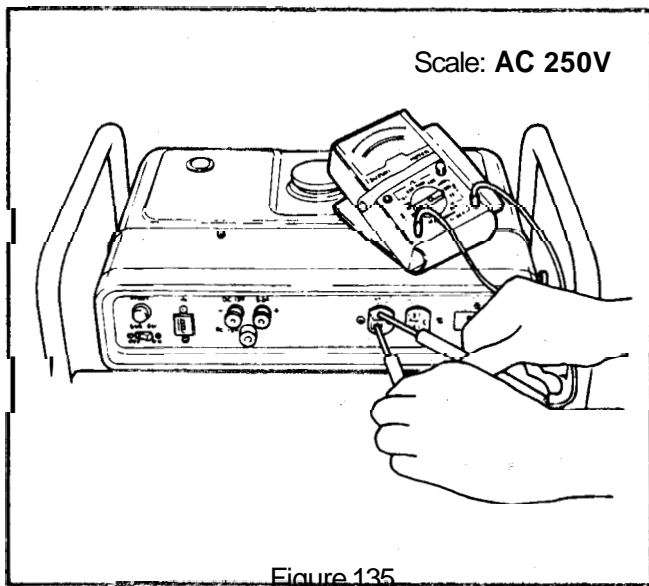

Figure 135
5. Insert the probes in the AC outlet and measure the voltage. The unloaded output voltage should be 120 volts \pm 10%. See Figure 135.